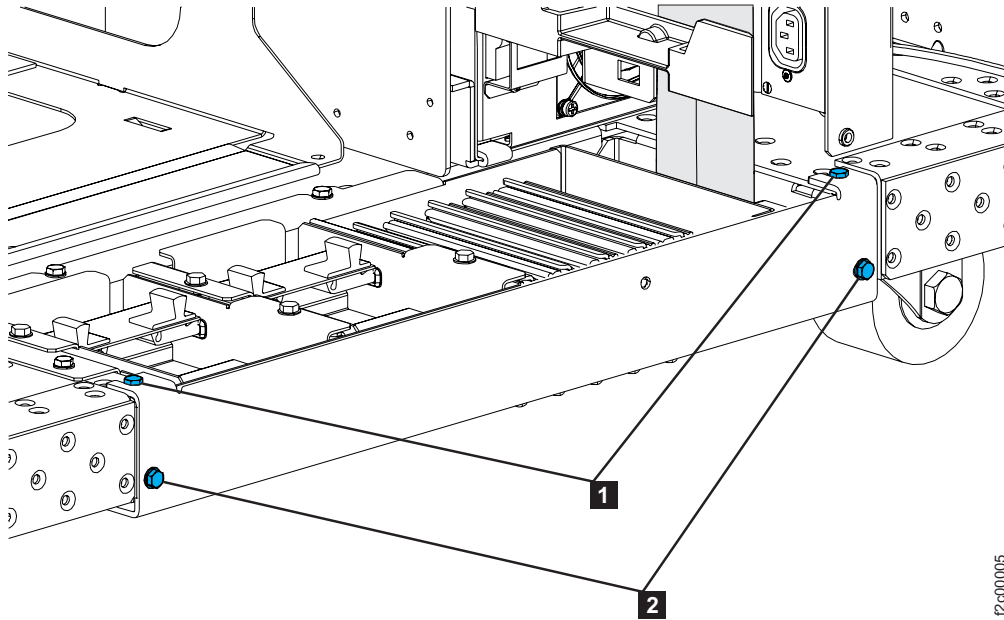

Figure 19. Tailgate frame bracket
4. Remove the tailgate frame bracket. Remove two screws **2** as shown in Figure 19 on page 24. Loosen but do not remove the two top screws **1**. Slide the bracket out.